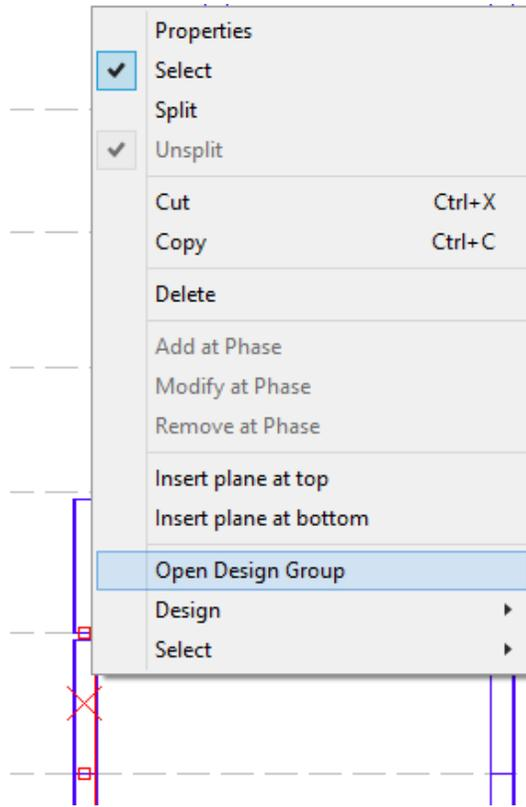

Figure 2-10 Right-Click Column Selection - Open Design Group
- Open the Section Type Manager (*Column Design* ► *Type Manager*) or by right-clicking one of the columns that was just selected and select *Open Design Group* as shown in **FIGURE 2-10**.